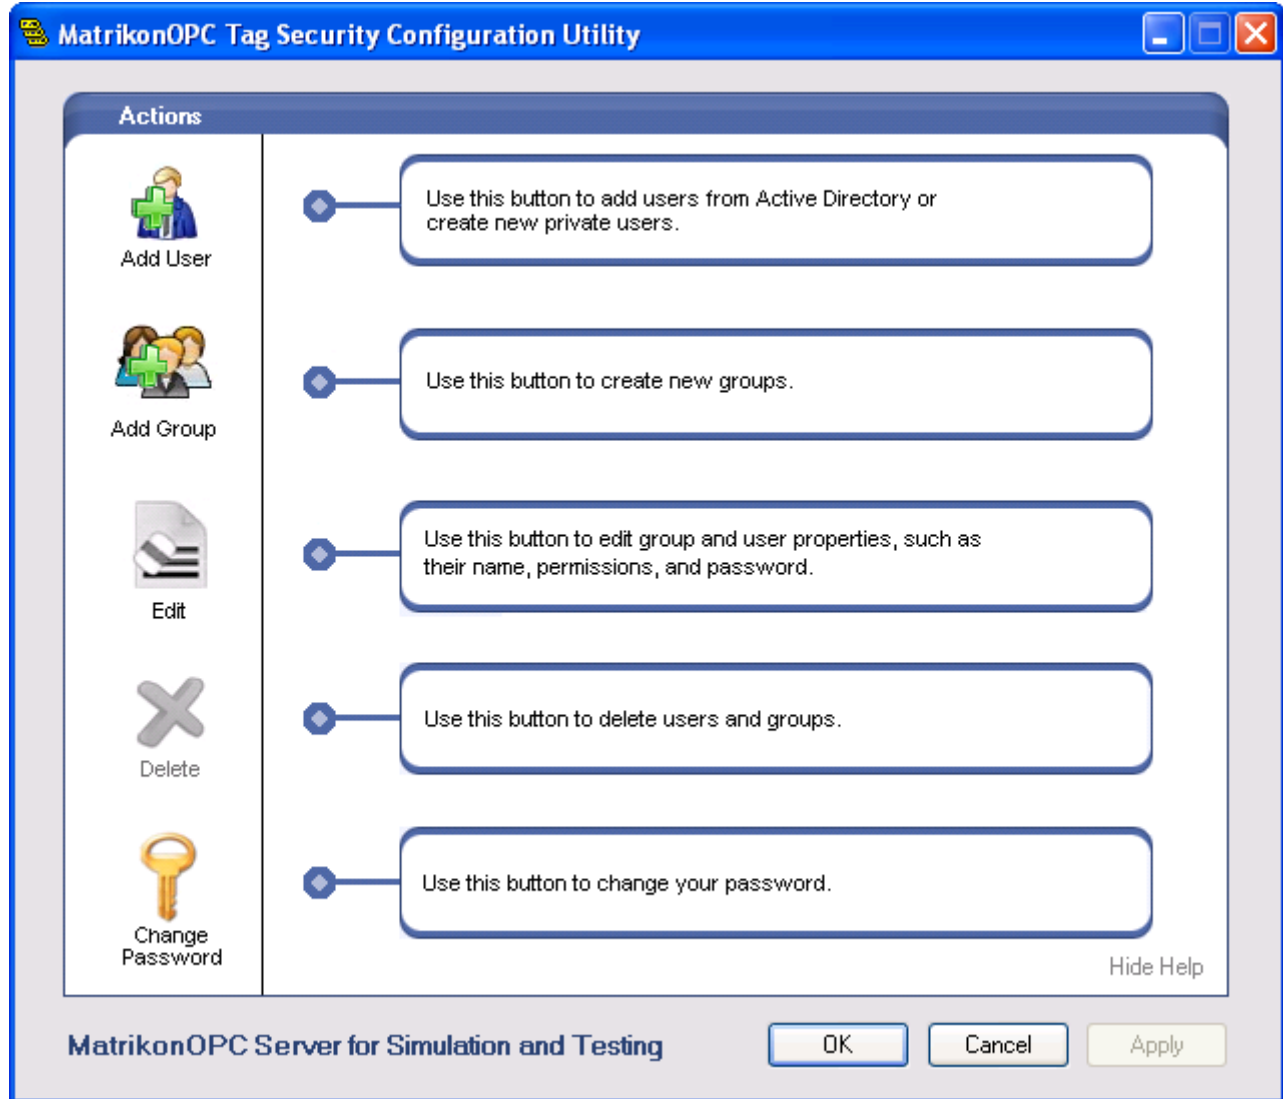

Figure 47 - MatrikonOPC Tag Security Configuration Utility Main Screen
4. The **MatrikonOPC Tag Security Configuration Utility** screen (Figure 47) appears.
The **MatrikonOPC Tag Security Configuration Utility** screen displays the name of the OPC server that is being configured for tag security. In Figure 47 above, the **Utility** screen shows that the **MatrikonOPC Server for Simulation and Testing** tag security is being configured.